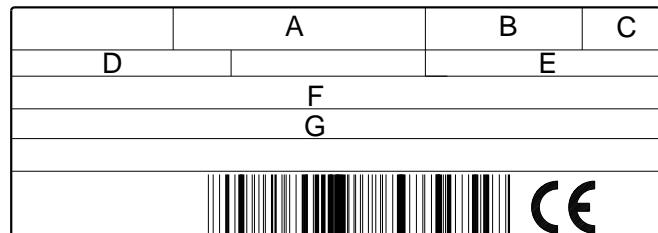

Fig. 7
- the model **A**(Fig. 7) and type of burner **B**;